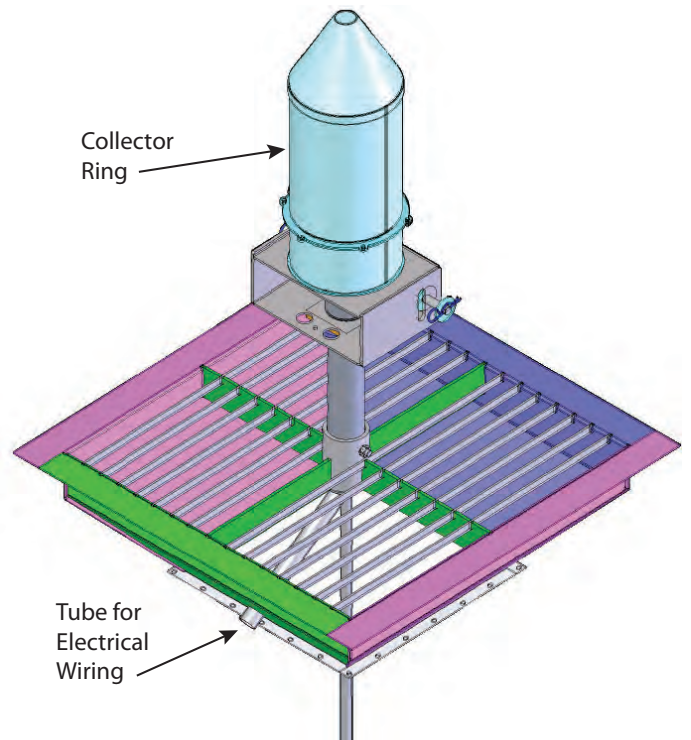

Figure 4-3: Sioux Steel Sump with Collector Ring
- Sioux Steel Sump with Collector Ring:** The Sioux Steel Sump can be ordered in advance and installed into the concrete foundation of the grain bin. These sumps offer a direct coupling to the collector ring and offer a protected route for the wiring to exit the sump. See Figure 4-3.